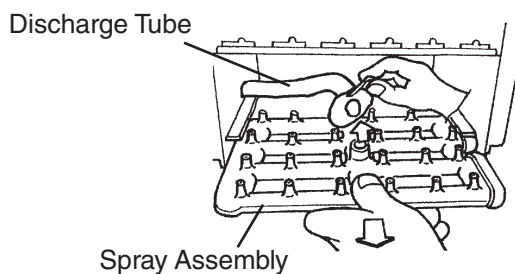

Fig. 41
- 7) Disconnect the discharge tube from the spray assembly, then slide out the spray assembly. See Fig. 41.